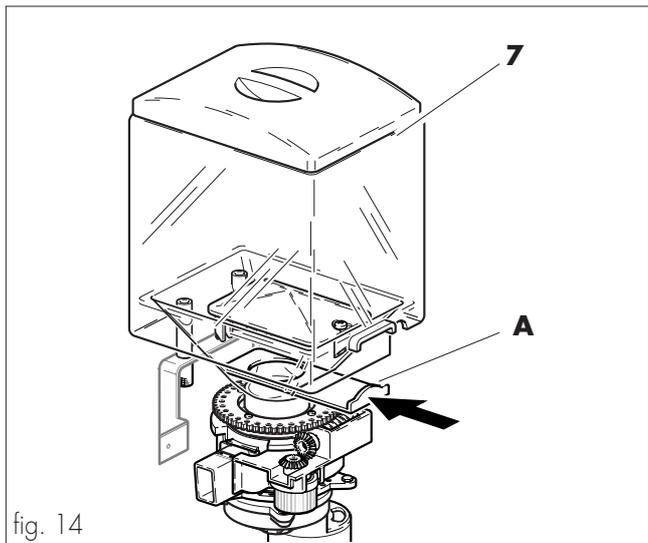

fig. 14
- Close the stop slide (ref. **A**, fig. 14) of the coffee bean hopper (ref. **7**, fig. 14).